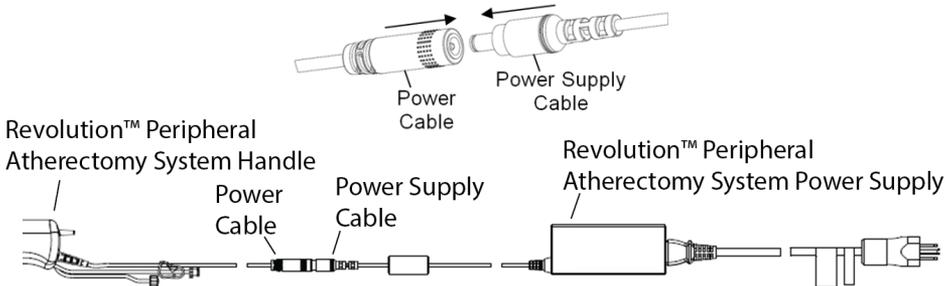
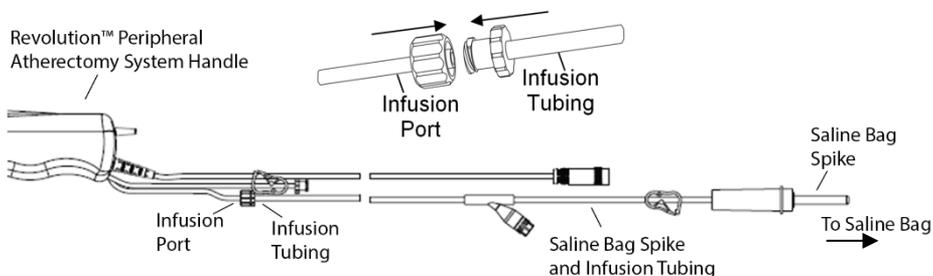

Figure 3: Connect to power supply
Figure 4: Connect infusion tubing
1. **Priming the System:** Remove the Revolution™ Peripheral Atherectomy System from the packaging and inspect for kinks or damage to the catheter. **Warning: Do not use the device if the device or catheter is damaged.** Attach the power cable from the device to the power supply cable, as shown in Figure 3. Using sterile technique, attach the saline bag spike and infusion tubing to a 1,000 mL bag of normal saline and the infusion port of the device, as shown in Figure 4. The saline should be pressurized with an IV pressure bag to ensure steady infusion. The recommended pressure is 20 kPA – 26.7 kPA (150 mmHg – 200 mmHg). Allow the system to flush until saline drips out of the distal tip of the catheter. **Precaution: Always operate the Revolution™ Peripheral Atherectomy System with saline infusion. Flowing saline aids in cooling and lubricating the system. Operation without saline flow may result in permanent damage.**